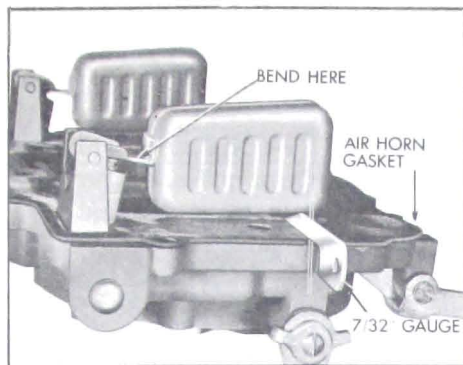

Figure 3-46—Checking Float Level
10. Adjust Float Level. With air horn inverted and air horn gasket in place, check clearance between each float (at outer end) and air horn gasket using 7/32" gauge or a 7/32" drill. See Figure 3-46. To adjust, bend float lever. After any adjustment, recheck float alignment.